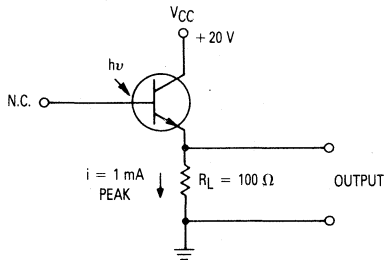

Figure 5. Pulse Response Test Circuit and Waveform
- NOTES: 1. Radiation flux density (H) equal to 5 mW/cm² emitted from a tungsten source at a color temperature of 2870 K.
3. For saturated switching time measurements, radiation is provided by a pulsed xenon arc lamp with a pulse width of approximately 1 microsecond (see Figure 5).
4. For unsaturated switching time measurements, radiation is provided by a pulsed GaAs (gallium-arsenide) light-emitting diode (λ = 940 nm) with a pulse width equal to or greater than 10 microseconds (see Figure 5).